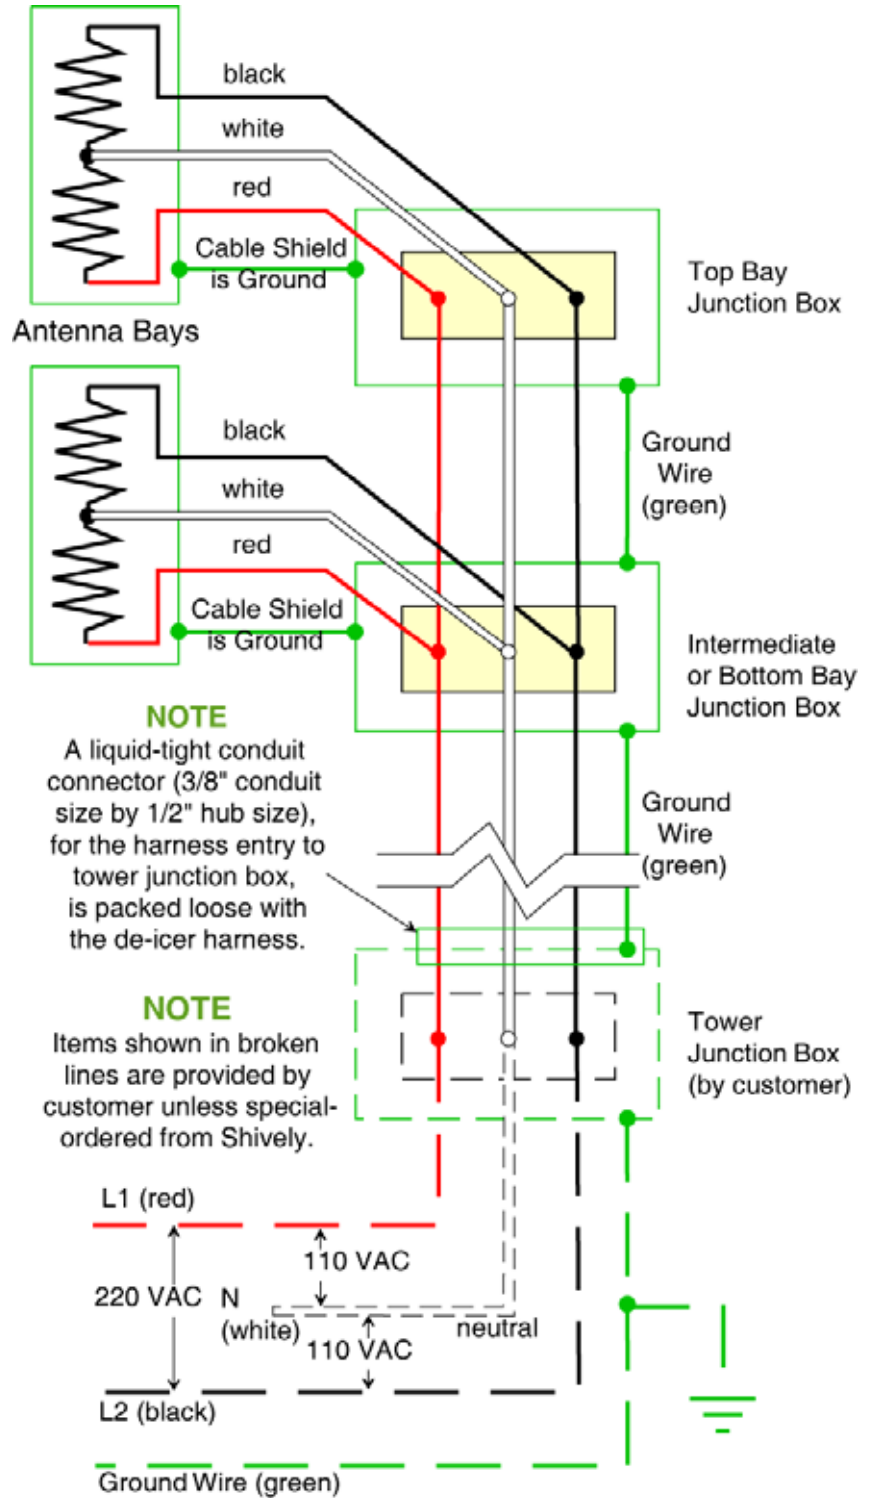
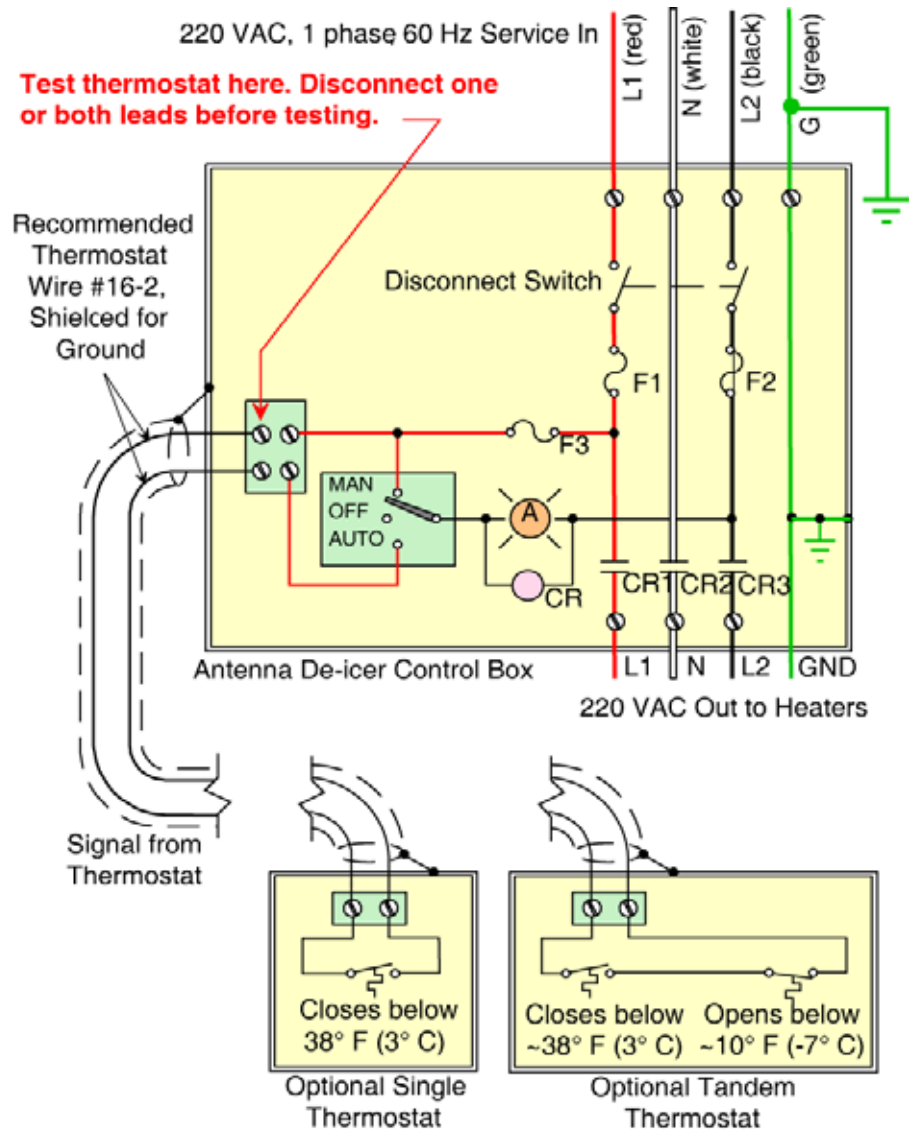

Figure 9. De-Icer Electrical Schematic
Figure 13. De-Icer Control Box Electrical Schematic
It is important that you ground *both* the tower junction box, as shown in Figure 9 on page 14, and the control box, as shown in Figure 13 on page 17.
The de-icer system consists of the heating elements in the bays, their branch cables, and the main harness. The main harness consists of a bay junction box for each antenna bay, interbay cables, and a "pigtail" of wires extending about 10 feet (3 meters) which you will connect to the tower junction box you are to provide (see Figure 9 on page 14).
- d. Furnish a tower junction box as shown in Figure 9 on page 14.
- k. Measure the resistance across the thermostat circuit and from it to ground in the same way. Test at the location shown in Figure 13 on page 17. Be sure to disconnect one or both thermostat leads before taking resistance readings.